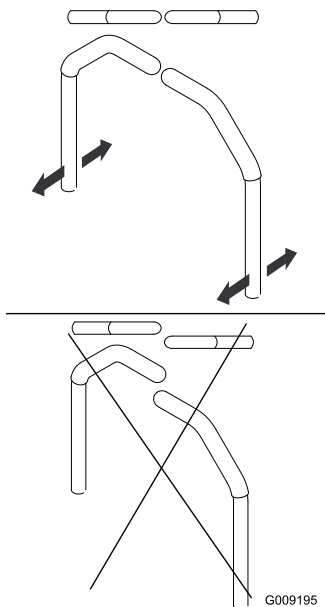

Figure 78
4. Align the levers in the front-to-rear position by bringing the levers together to the NEUTRAL position, and slide them until they are aligned, then tighten the bolts (Figure 78).